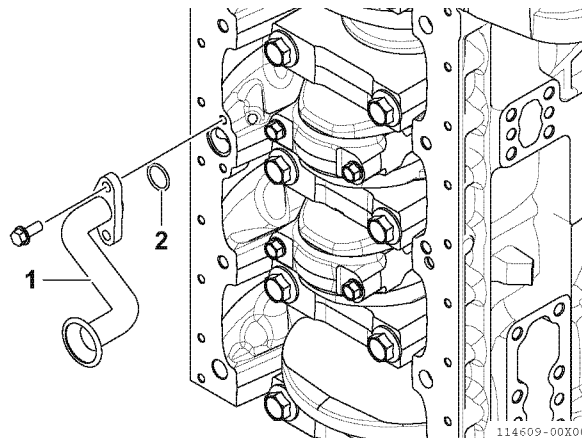

Fig.03-5
2. Remove the lubricating oil suction pipe (1, Fig.03-5) and O-ring (2, Fig.03-5).